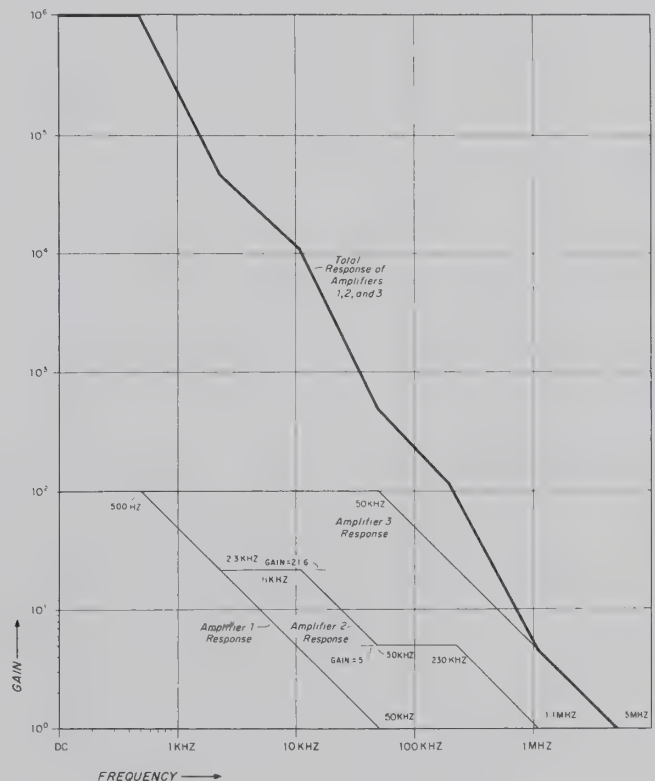

Figure 3-5. Integrator Response (idealized)
**3-40. First Amplifier.** The first amplifier is a two-stage differential circuit consisting of dual transistors Q1A/B and Q2A/B and related circuit elements. With differential input, temperature-induced changes of bias effectively become a common mode signal that is greatly attenuated. Second stage Q2A/B is balanced by adjustment of variable resistor R28. The input stage is balanced by R11. The base currents of Q1A and Q1B are equalized by adjustment of R4 and R6. The gain of the first amplifier is +100 from dc to the -3 db point (500 Hz). Thereafter r-c networks C3-R22 and C4-R23 roll off gain at a rate of 6 db per octave. Gain is down to +1 at 50 kHz, then flat beyond 5 MHz. (See Figure 3-5.)
3-44. The gain-bandwidth characteristics of the second amplifier are determined by r-c feedback from the collectors of Q5 and Q6 to the emitters of Q3 and Q4. Feedback from the Q5 collector is coupled through R41, R40-C7, R39-C6, and C5. Feedback to the Q4 emitter is coupled through R42, R43-C8, R44-C9, and C10. The overall response of the second differential feedback pair is diagrammed in Figure 3-5.
3-46. The gain of the third amplifier is +100 from dc to the -3 db point (50 kHz); thereafter feedback coupled through C13 rolls off gain at a rate of 6 db per octave. Gain is down to +1 at 5 MHz. (See Figure 3-5.)